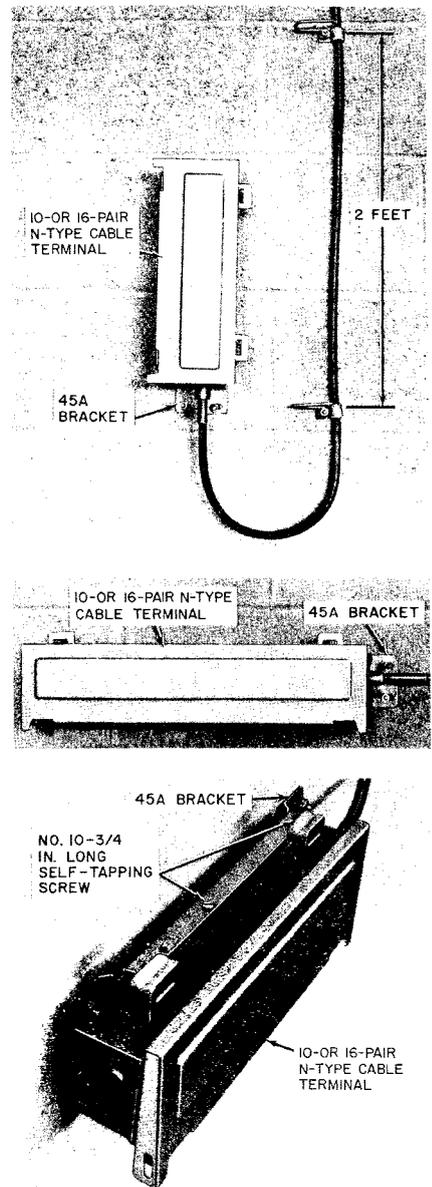

Fig. 30—Securing 10- or 16-Pair N-Type Cable Terminal to 45A Mounting Bracket
(3) Set the terminal in position on the 45A bracket and secure it with four self-tapping screws as illustrated in Fig. 30.